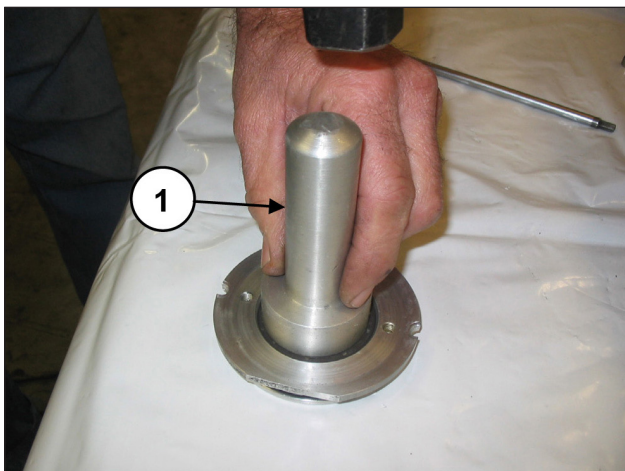

Fig. 129
Mount the oil seal in the oil seal cover (pos. ①, Fig. 129) using a buffer code 27910900.